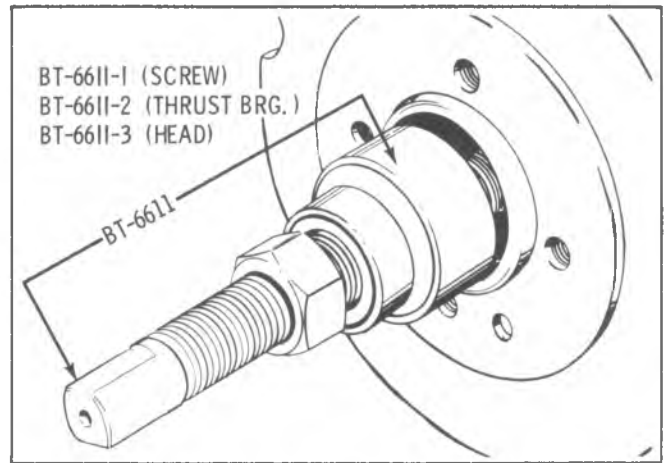

Fig. E-73—Installing Balancer
2. Install balancer on crankshaft. (Fig. E-73)